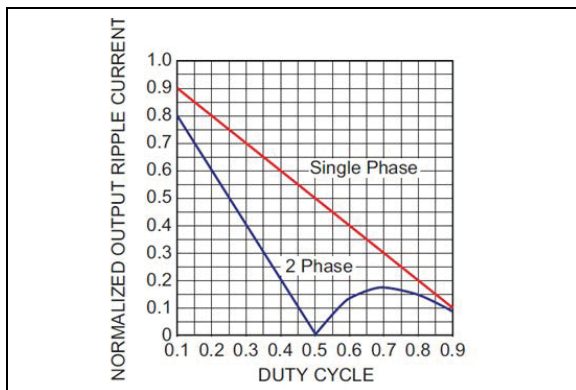

FIGURE 5-1: Normalized Peak-to-Peak Output Ripple Current vs. Duty Cycle.
To determine the required output capacitance for a two-phase buck converter in steady state, peak-to-peak output ripple current as seen by the output capacitors must be known. The peak-to-peak output ripple current for both a single-phase and two-phase buck converter is shown in Figure 5-1. The graph shows that peak-to-peak output ripple current, normalized by the maximum value, is a function of the duty cycle. Since each channel is 180 degrees out of phase with the other for a two-phase buck converter, the two-phase peak-to-peak output ripple current is less than that for a single-phase converter and the ripple current effective frequency is doubled, as seen by the output capacitor. This is the ripple reduction effect of two-phase operation. In addition, at 50% duty cycle, the inductor ripple currents from each channel cancel each other and the output ripple current is close to zero.
The peak-to-peak output ripple current shown in Figure 5-1 is normalized by the maximum value, which is used as the normalizing factor for simplifying the calculation of output ripple current.
The approximate peak-to-peak output ripple current of a two-phase buck converter at a given duty cycle can be determined from the corresponding normalized value for the two-phase buck converter in Figure 5-1, multiplied by the normalizing factor, as shown in Equation 5-8 below.
- $\Delta I_{OPP(NORMALIZED)}$ = Normalized Peak-to-Peak Output Ripple Current Value for Two-Phase Buck Converter at Given Duty Cycle in Figure 5-1